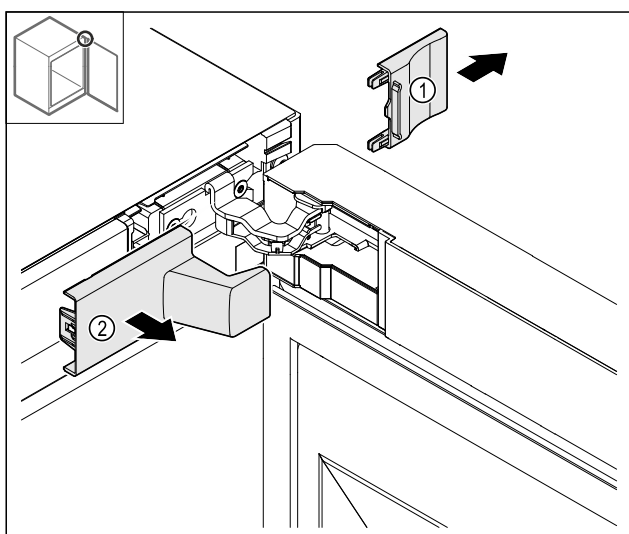

Fig. 13
- ▶ Remove the cover Fig. 13 (1) and then Fig. 13 (2).